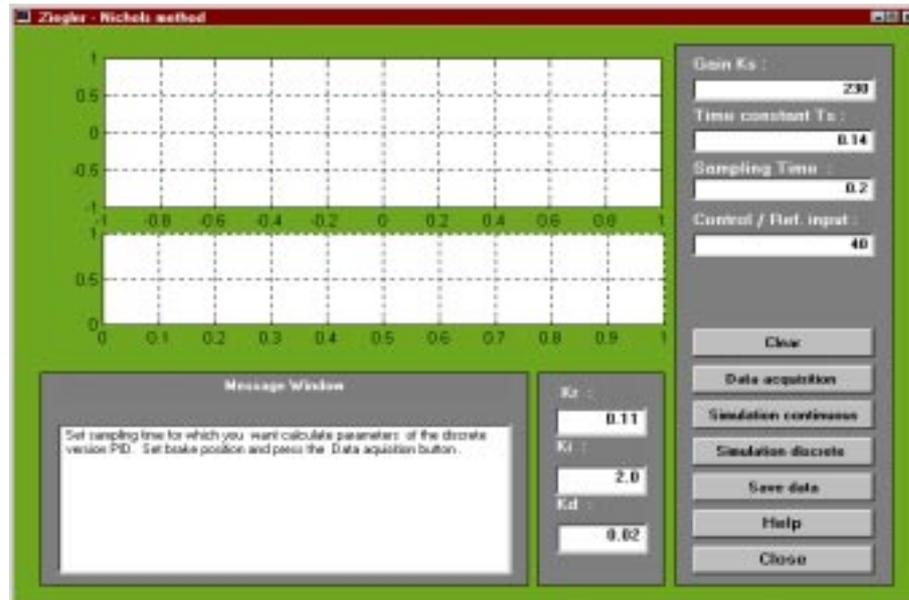

Figure 4-10: *Ziegler - Nichols method* window
5) *Ziegler Nichols method* - opens the window for PID controller design (Figure 4-10).
After double-clicking *Ziegler-Nichols method* button in the *Main Control Window* (Figure 3-1) the screen presented in Figure 4-10 appears. Assume, that the model parameters are correctly identified, using the “Time Domain Identification toolbox” and you wish to design a discrete PID controller for a sampling time of $T_0 = 0.2$ s.